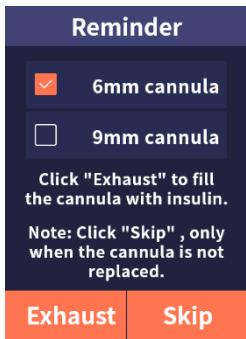

Figure 11.8
(7) Exhaust. Select the length of the soft cannula you are using, and then click "Exhaust", so the insulin will fill the soft cannula (as shown in Figure 11.8).